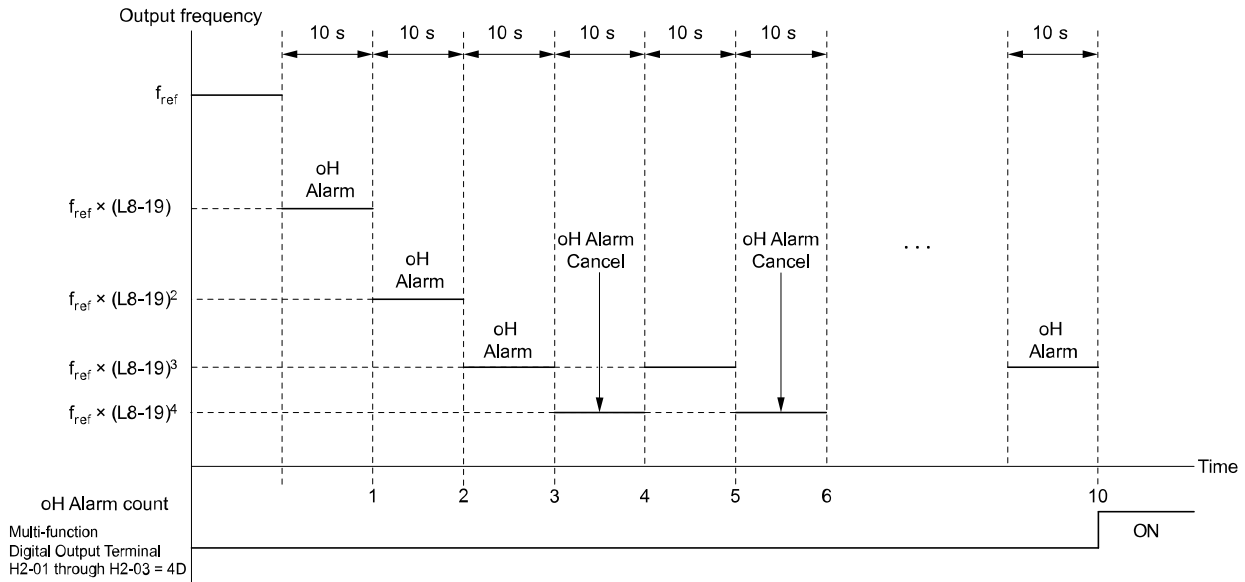

Figure 12.128 Drive Operation at a Decreased Output Frequency when the Overheat Alarm is Output
*oH* flashes on the keypad. When the alarm is output, the drive decelerates each 10 seconds. If the drive decelerates 10 times and the alarm continues to be output, the output terminal set for *oH Pre-Alarm Reduction Limit* [*H2-01 to H2-03 = 4D*] activates. When the alarm is not output during deceleration, the drive accelerates until it is at the frequency reference that was applicable before the alarm was turned off. Figure 12.128 shows the output of the alarm and the drive operation at a decreased output frequency.